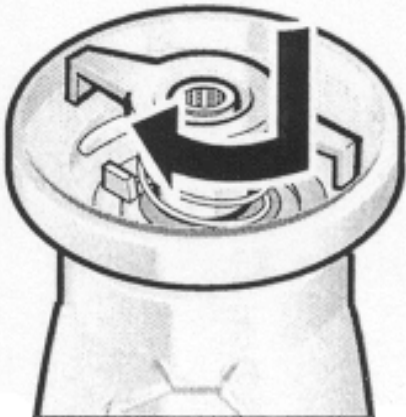

Figure 11.
2. To assemble or reassemble blade assembly into the blender, insert the blade assembly into the blender jar as shown in figure 11, press down on the